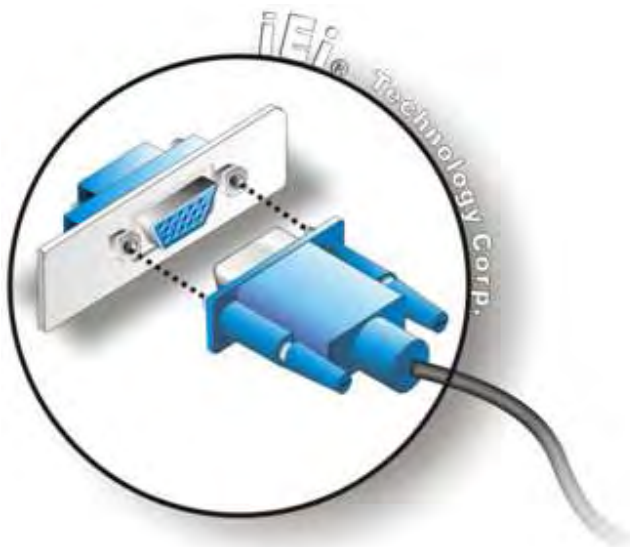

Figure 3-21: VGA Connector
- Step 3: Insert the VGA connector** Once the connectors are properly aligned with the insert the male connector from the VGA screen into the female connector on the ICEFIRE-T10A. See Figure 3-21.